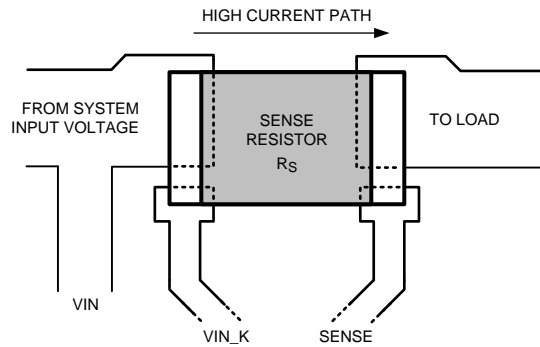
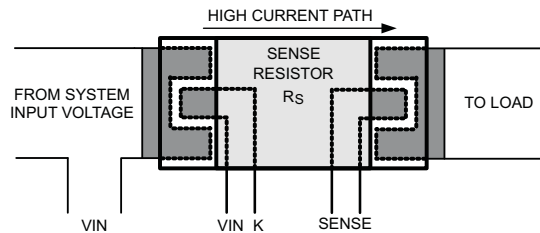

Figure 14. Sense Resistor Connections, Edge Sensed
Figure 15. Sense Resistor Connections, Centered Sensed
Connections from  $R_S$  to the LM5056/LM5056A should be made using Kelvin techniques. In the suggested layout of Figure 14 the small pads at the lower corners of the sense resistor connect only to the sense resistor terminals, and not to the traces carrying the high current. With this technique, only the voltage across the sense resistor is applied to VIN\_K and SENSE, eliminating the voltage drop across the high-current solder connections.
If the PCB layout and resistor pads allow for it, the connection shown in Figure 15 gives optimal kelvin sensing performance.
- The sense resistor ( $R_S$ ) should be placed close to the LM5056/LM5056A. Connect  $R_S$  using the Kelvin techniques shown in Figure 14 or Figure 15.